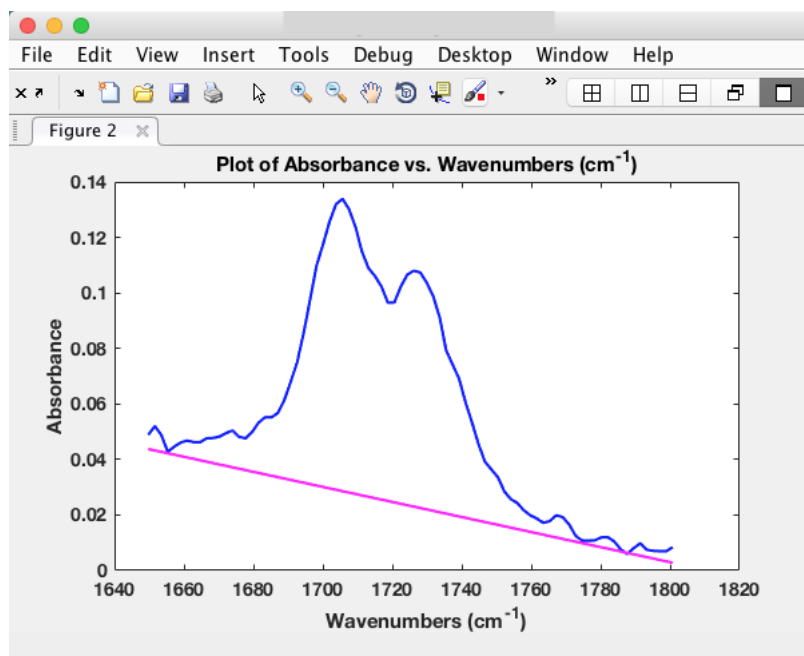

Figure 8: A plot of *Absorbance* vs. *Wavenumbers* with the correction values.
It is important to include the command “hold on” in the above command. The command “hold on” tells MATLAB to plot a new graph onto an existing figure without removing the old graph. This feature can be turned off by typing *hold off*. To label the x-axis, y-axis, and the plot title, use the commands mentioned in the previous section (command (8) and (9)). If everything was done correctly, you should get a figure similar to Figure 8.